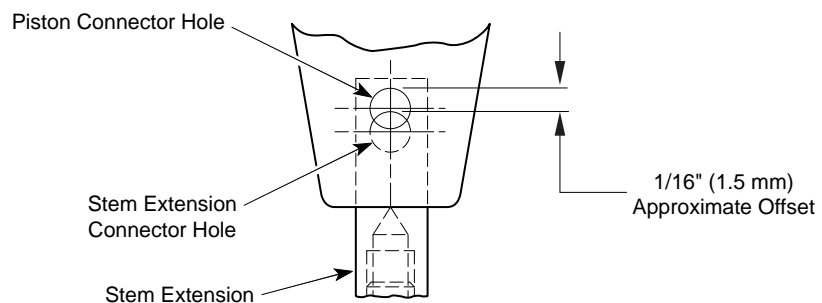

Figure-6 Piston/Extension Hole Alignment for 3-Way Valves and Normally Closed 2-Way Valves.
8. The actuator piston connector hole should be 1/16" to 1/8" (1.5 to 3 mm) above the stem extension connector hole, to assure proper close-off (see Figure-6). If the connector hole offset is not met, adjust the position of the stem extension as follows: